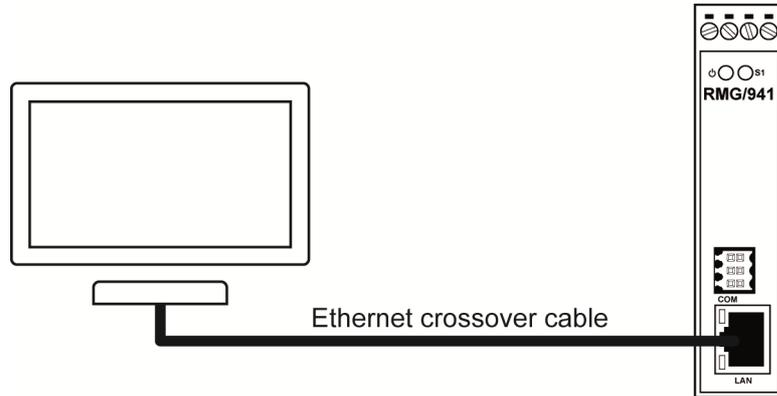

Figure 4: Ethernet link with cross-over cable
- Direct with an Ethernet cross-over cable like shown in **fig. 4**.
For the Ethernet connection in **fig. 4** it is required to use a **cross-over cable**. Do not use an ordinary patch cable. Both types of cables are in most cases visual indistinguishable. But the internal wiring is fully different. Mixing up these types of cables leads to LAN errors. Hence pay attention to the label of the cable or packing.